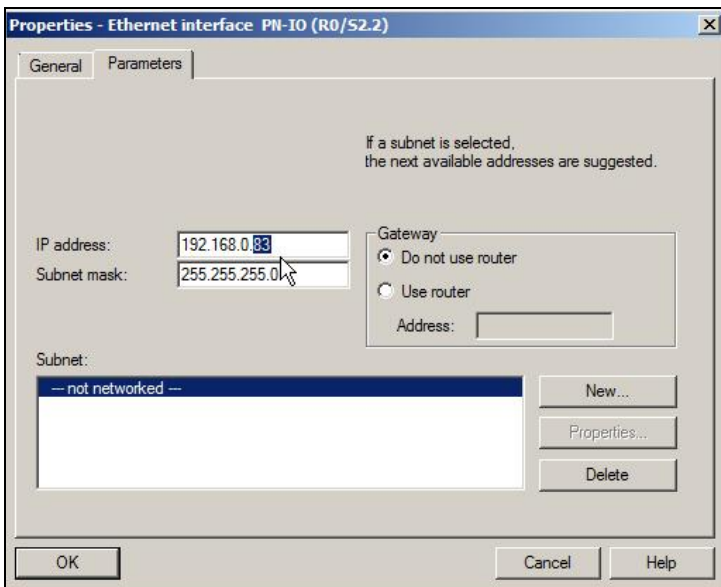
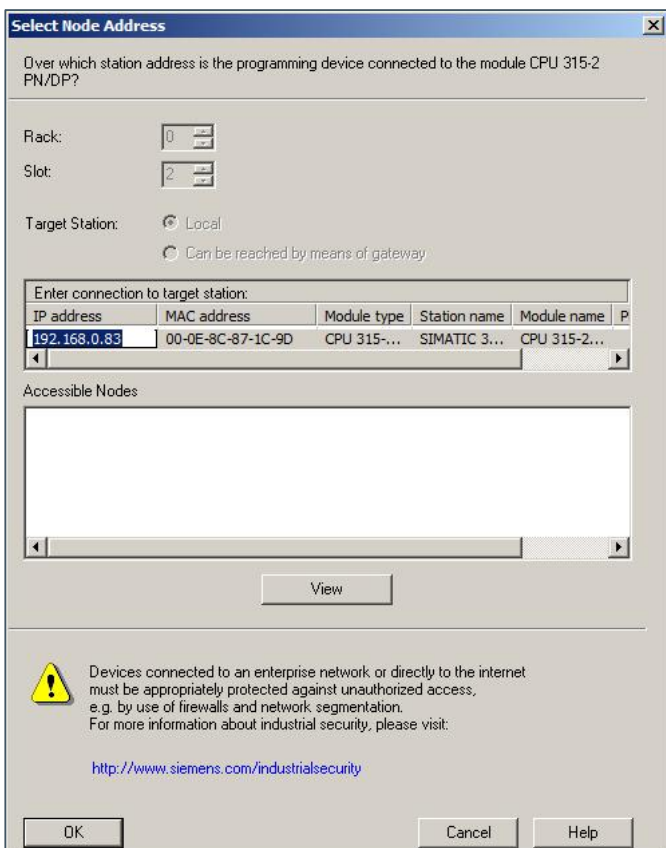

Figure 24: Setting up PN IO IP address
Figure 39: Enter connection to target station
- 4) Key in the set **IP address** for the PROFINET IO Ethernet interface, then click **New** (see: Figure 24: Setting up PN IO IP address).
- 3) Key in the **PN IO IP address** (see: Figure 24: Setting up PN IO IP address) and click **OK** (see: Figure 39: Enter connection to target station).